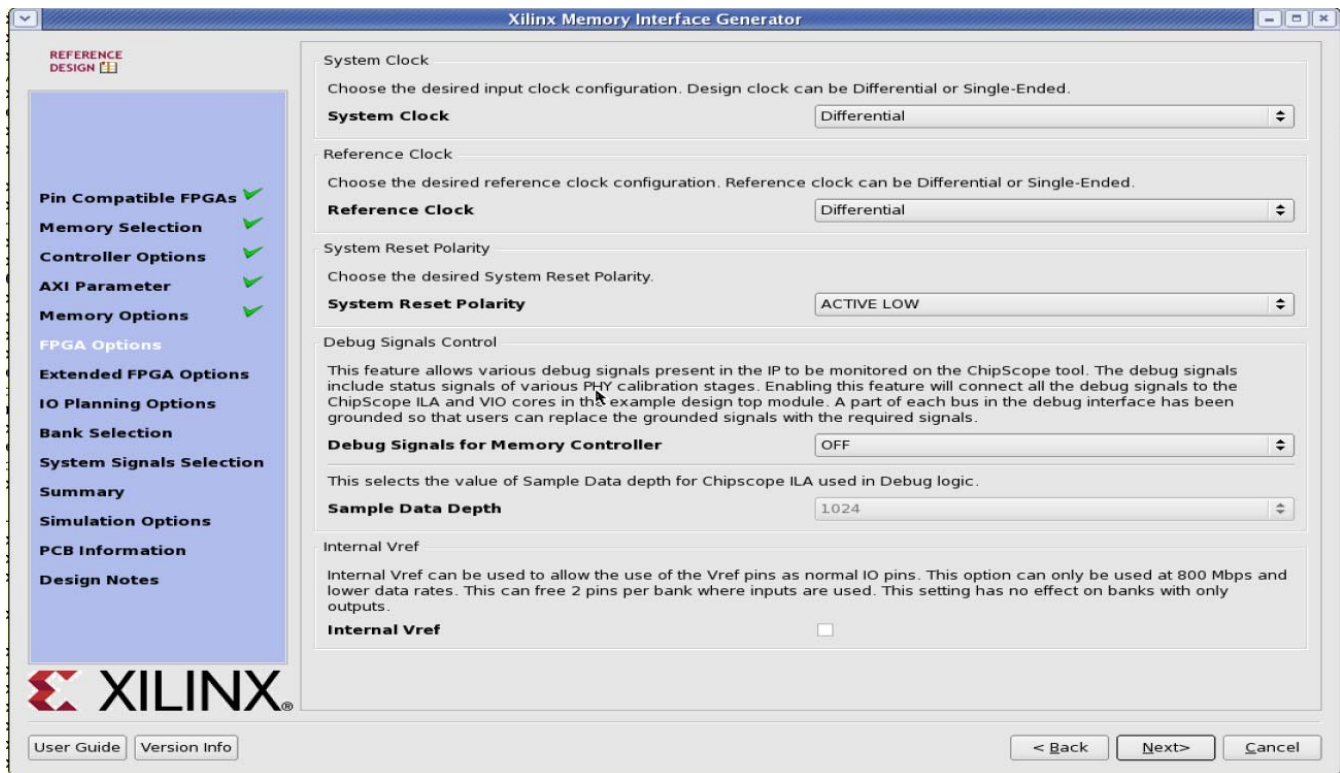

Figure 3-20: **FPGA Options Page**
Figure 3-20 shows the **FPGA Options** page.
- **sys\_clk** – This is the system clock input for the memory interface and is typically connected to a low-jitter external clock source. Either a single input or a differential pair can be selected based on the **System Clock** selection in the **FPGA Options** page (Figure 3-20). The `sys_clk` input must be in the same column as the memory interface. If this pin is connected in the same banks as the memory interface, the MIG tool selects an I/O standard compatible with the interface, such as `DIFF_HSTL_I` or `HSTL_I`. If `sys_clk` is not connected in a memory interface bank, the MIG tool selects an appropriate standard such as `LVC MOS18` or `LVDS`. The XDC can be modified as desired after generation.
- **clk\_ref** – This is the reference frequency input for the IDELAY control. This is a 200 MHz input. The `clk_ref` input can be generated internally or connected to an external source. A single input or a differential pair can be selected based on the **System Clock** selection in the **FPGA Options** page (Figure 3-20). The I/O standard is selected in a similar way as `sys_clk` above.
- **sys\_rst** – This is the asynchronous system reset input that can be generated internally or driven from a pin. The MIG tool selects an appropriate I/O standard for the input such as LVCMOS18 and LVCMOS25 for HP and HR banks, respectively. The default polarity of `sys_rst` pin is active-Low. The polarity of `sys_rst` pin varies based on the **System Reset Polarity** option chosen in **FPGA Options** page (Figure 3-20).